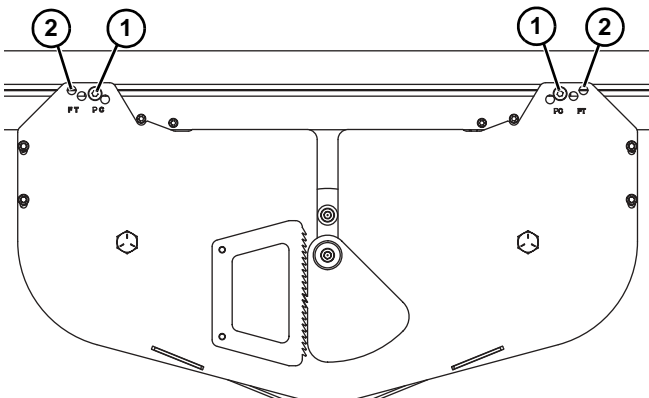

Figure 63
- For standard belt use these holes (**Figure 63, item 1**).
- For friction insert belt use these holes (**Figure 63, item 2**).